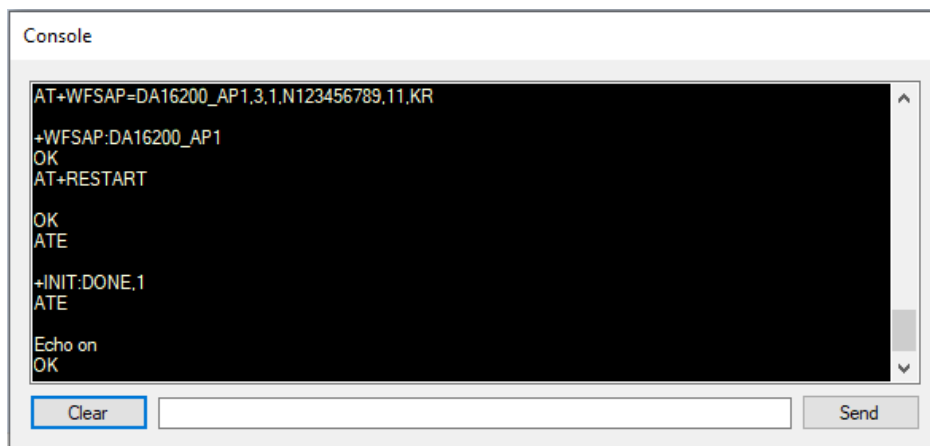

Figure 21: Debug Console – AP Configuration
- The Debug Console window messages appear as shown in Figure 21